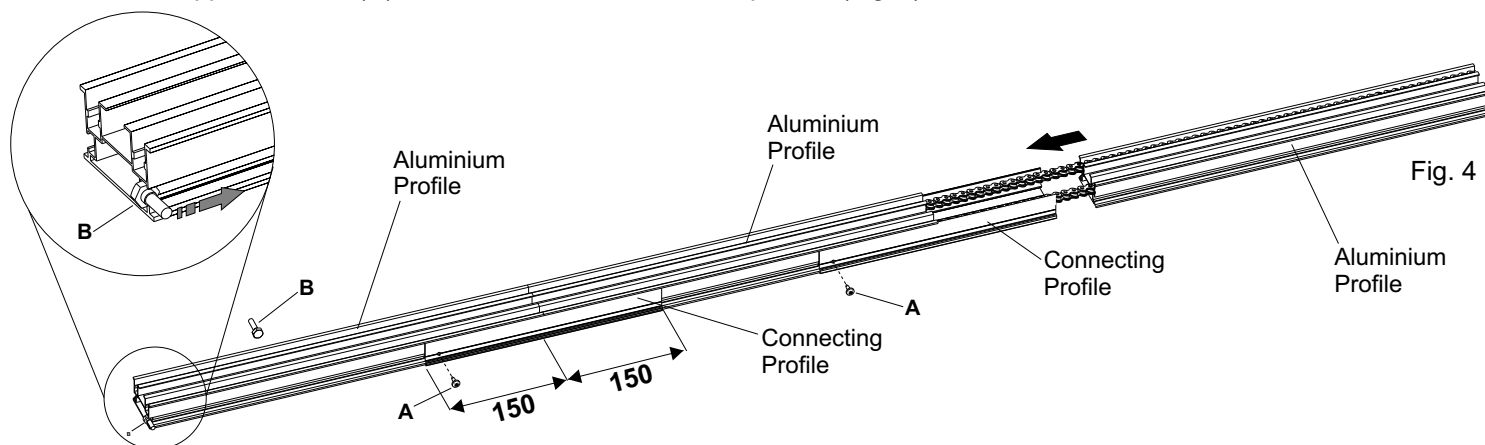
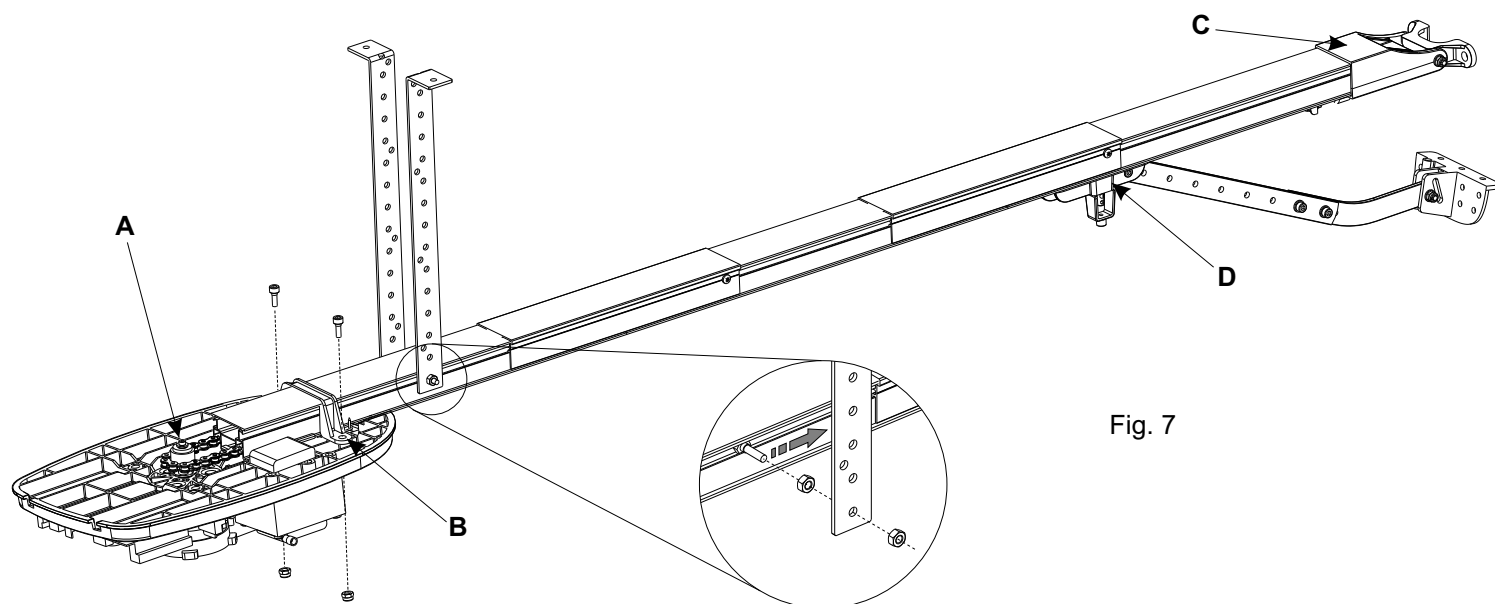

Fig. 4
Fig. 7
- Insert the connecting profile into the aluminium profile for half its length (150 mm) and fix it with the **A** screw. (Fig. 4)
- Insert the two supplied screws (**B**) into the holes of the aluminium profiles (Fig. 4)
Note: In Fig.4 a pair of screws are inserted into the loopholes which will be used for fixing the Corona S operator to the ceiling with the special brackets (See also Fig. 7).
- Make sure that the chain has been correctly mounted on the pinion of the Corona S body (Fig. 7 - A).
- Place the guide on the stop of the Corona S body and fix it with the special bracket (Fig. 7 - B).
- Mount the front fixation support on the other end of the guide (Fig. 7 - C)
**IMPORTANT:** Keep well lubricated the chain and the sliding device (Fig. 7 - D).